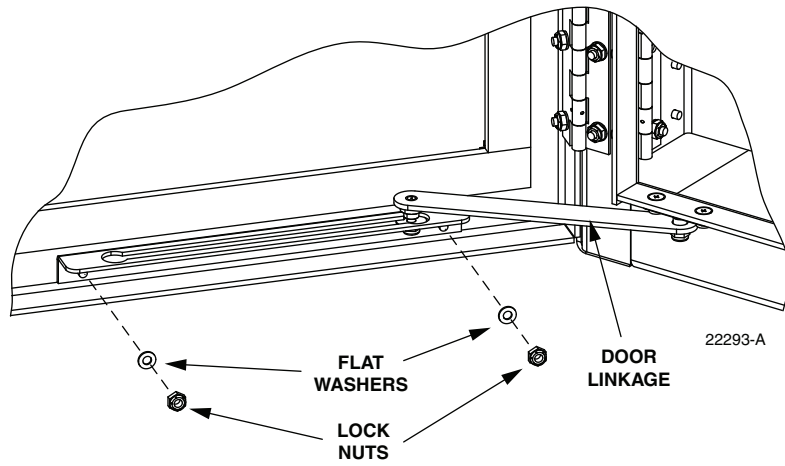

Figure 82. Door Linkage Hardware
2. Use a 3/8-inch nut driver and wrench to remove the locking nuts and washers that secure the door bracket slide to the bottom edge of the door as shown in Figure 82. Save the nuts and washers for reuse.